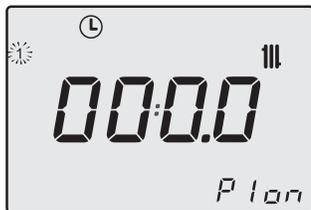
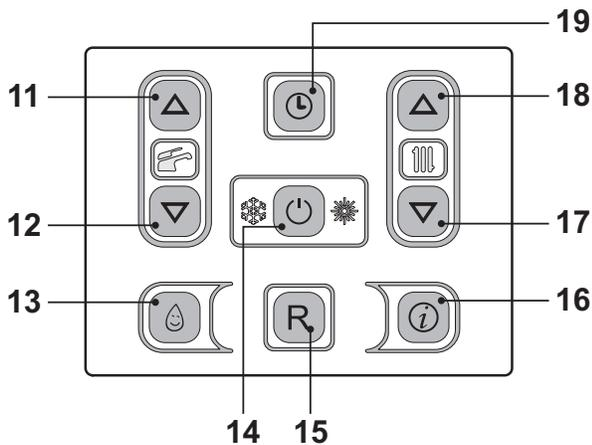

Fig. 2.13
Fig. 2.14
Enter "programming mode" by holding down keys 18 and 19 for 5 seconds (Fig. 2.14) until the LCD display indicates the symbols shown in Fig. 2.13.
Press keys 11 or 12 (Fig. 2.14) to select the individual day (1)(2)(3)(4)(5)(6)(7) or if you want groups of days with the same time bracket